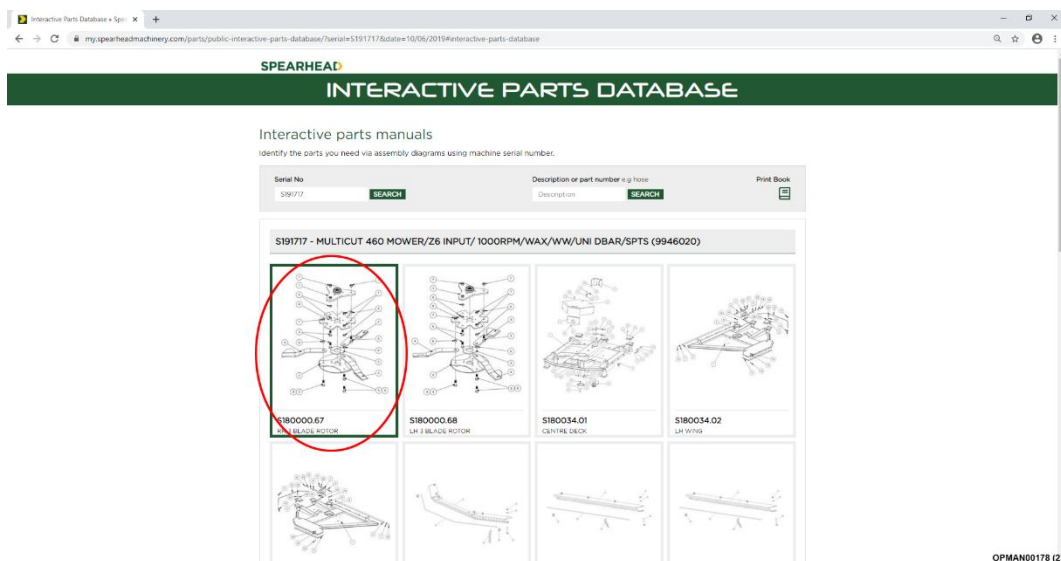

Figure 34 – Click On Assembly
11.2.1.3 After clicking on the serial number a full parts breakdown, specific to the machine serial number will appear showing the various parts and assemblies of the machine. Click on the specific assembly picture required; see Figure 34.